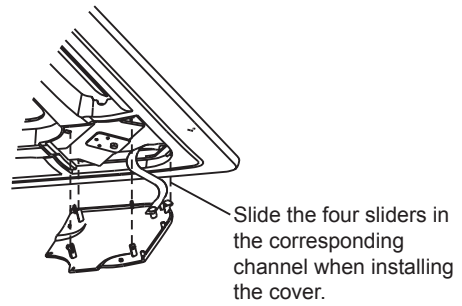

Fig.4-21
- 2) Press the installation cover into the panel lightly. (Refer to fig.4-21)